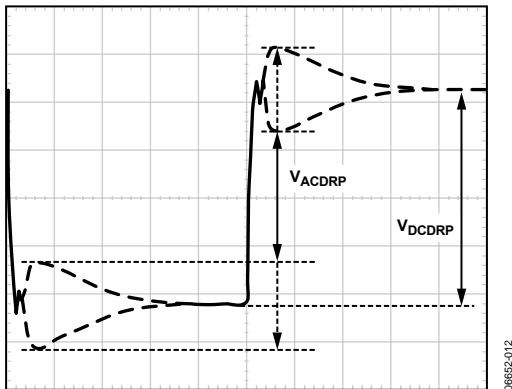

Figure 15. AC Load Line Waveform
4. Measure the output waveform. (Note that use of a dc offset on the scope may be necessary to see the waveform.) Try to use a vertical scale of 100 mV/div or finer. This waveform should look similar to Figure 15.
5. Use the horizontal cursors to measure V_{ACDRP} and V_{DCDRP} , as shown in Figure 15. Do not measure the undershoot or overshoot that occurs immediately after this step.
- $$C_{CS(NEW)} = C_{CS(OLD)} \times \frac{V_{ACDRP}}{V_{DCDRP}} \quad (44)$$